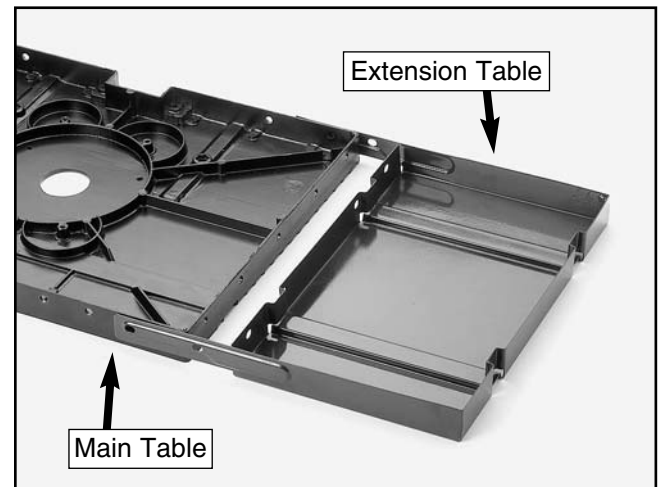

Figure 3. Aligning an extension table with the main table.
2. Align the extension tables mounting holes with the mounting holes on the edge of the main table (**Figure 3**). *Note—DO NOT secure the extension tables with screws at this time.*